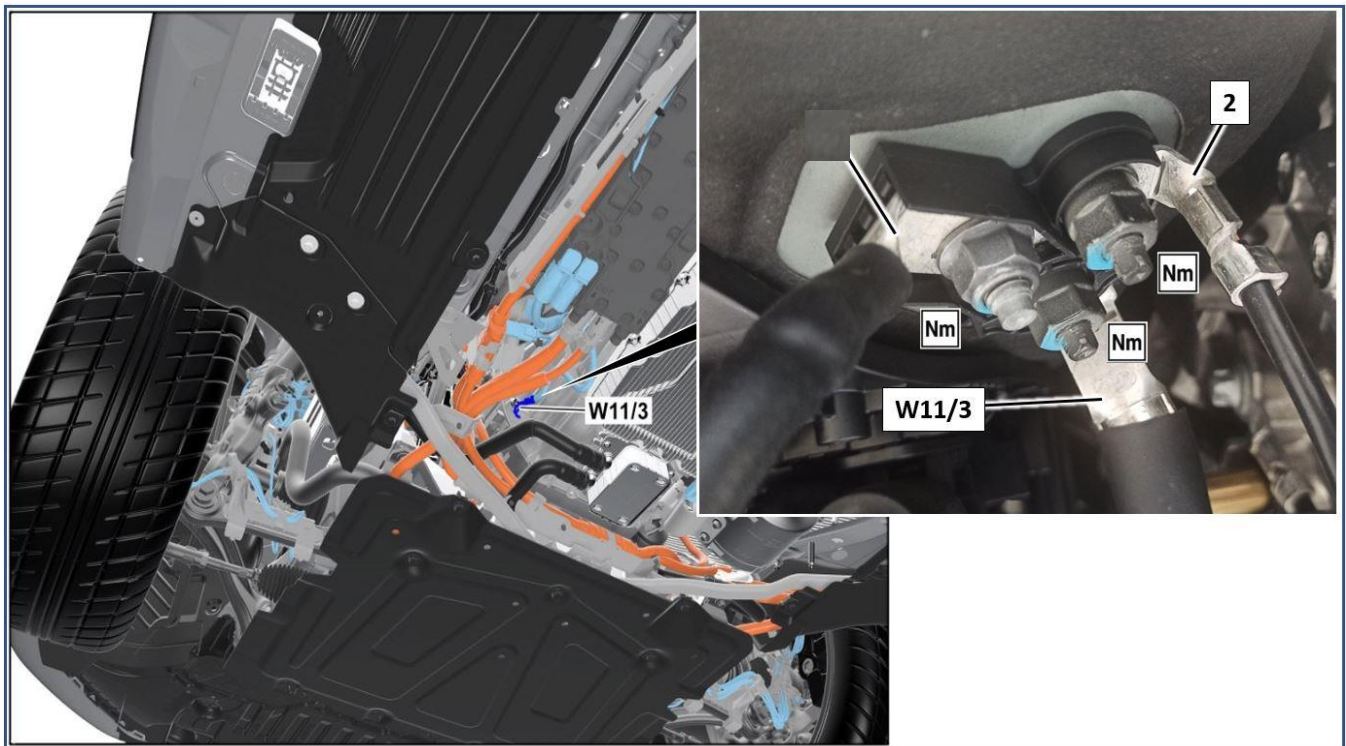

Figure 1
- Unscrew nuts on ground points (**Figure 1, W11/3 & 2**).
- Ground point for combustion engine, left (**Figure 1, W11/3**)
- Ground point for circuit 31, with code B01 (48 V technology) (**Figure 1, 2**)
4. **Replace** nuts on ground points (**Figure 1, W11/3 or 2**) and tighten to specified torque.
- Left combustion engine ground point (**Figure 1, W11/3**): **20 Nm**
- Ground point for circuit 31, with code B01 (48 V technology) (**Figure 1, 2**): **20 Nm**